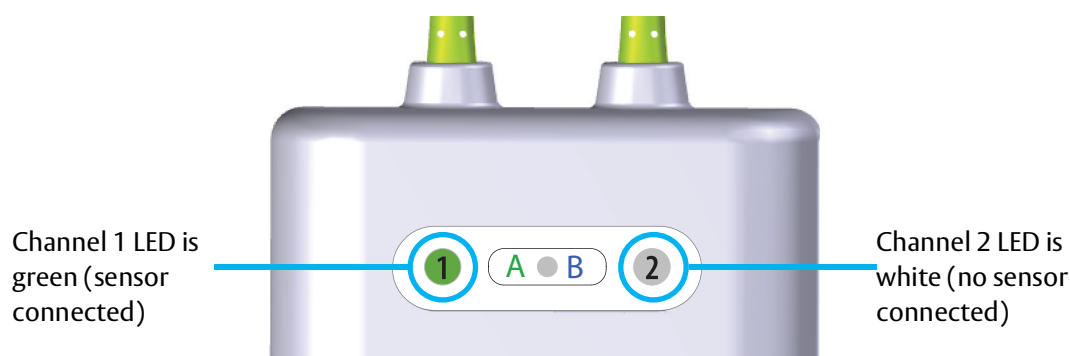

Figure 12-14 Connecting a sensor to the ForeSight oximeter cable – channel status LED
- 6 Verify that the channel status LED indicator on the ForeSight oximeter cable changes from white to green when the sensor is fully connected. See figure 12-14.